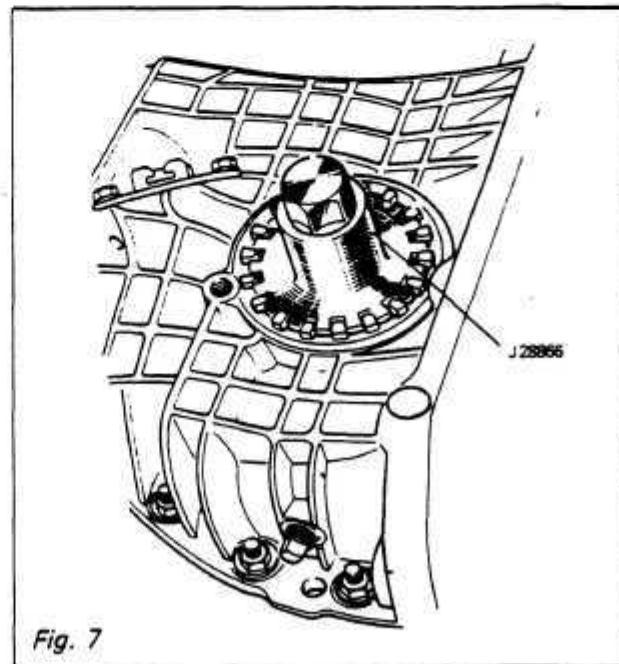

Fig. 7
- (2) Unscrew the adjusting nut using Tool J28866 counting the number of turns required to disengage the threads. (Fig. 7)
- (3) Remove O-ring seal and pry out the lip seal using suitable tool taking care not to damage adjusting nut.